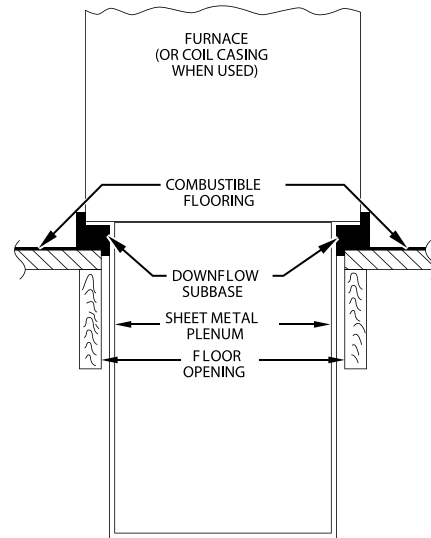
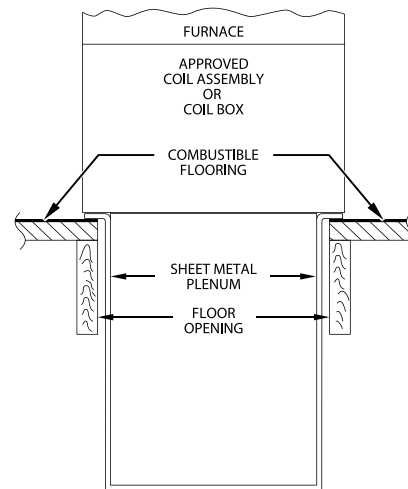

Fig. 12 – Furnace, Plenum, and Subbase Installed on a Combustible Floor
Fig. 13 – Furnace, Plenum, and Coil Assembly or Coil Box Installed on a Combustible Floor
4. If downflow subbase is used, install as show in Fig. 12. If manufacturer's cased evaporator coil or coil casing is used, install as shown in Fig. 13.